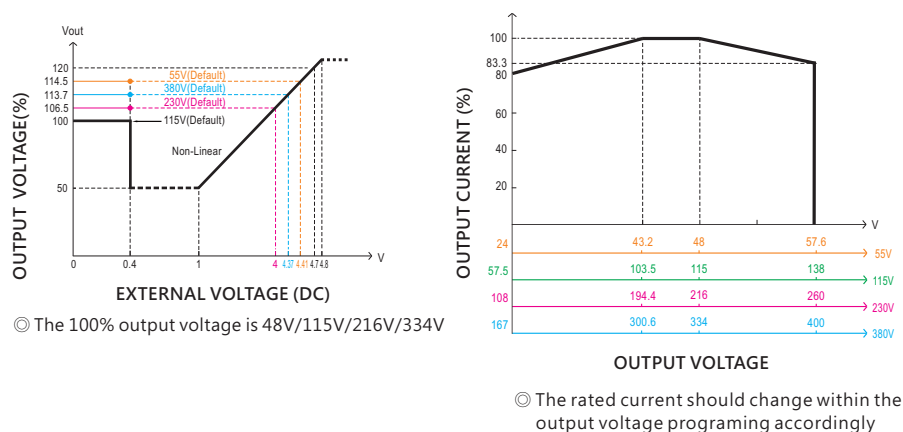

Figure 5-3
- 2.Relationship between output voltage and external DC source is shown in Figure 5-3.